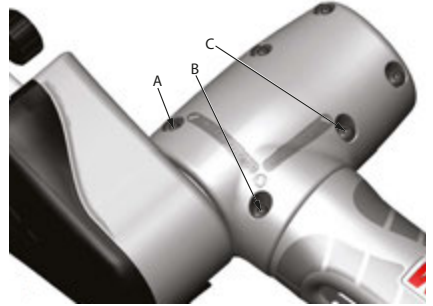

图 4
2. 送开M4带帽螺丝“A”和“B”：(请参看图4)
2. 送开M4带帽螺丝“B”和“C”：(请参看图4)